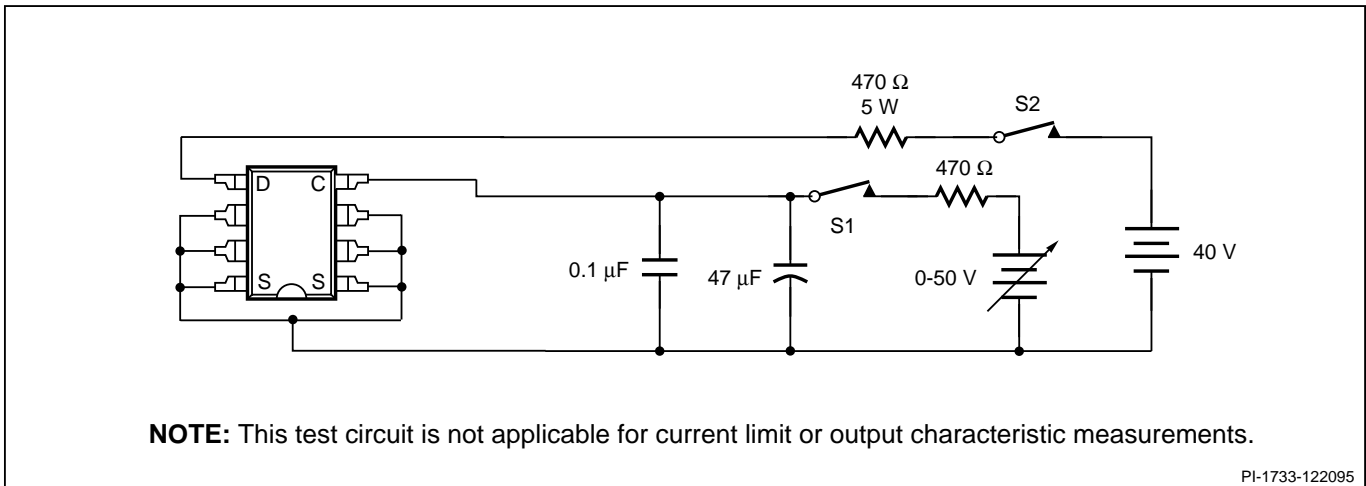

Figure 12. *TOPSwitch* General Test Circuit.
(Unless Otherwise Specified) See Figure 12 SOURCE = 0 V $T_J = -40$ to 125 °C
- B. The breakdown & leakage measurements can be accomplished by using the *TOPSwitch* auto-restart feature. The divide-by-8 counter in the auto-restart circuitry disables the output MOSFET from switching in 7 out of 8 cycles. To place the *TOPSwitch* in one of these cycles, the following procedure can be carried out using the modified circuit of Figure 12:
The following precautions should be followed when testing *TOPSwitch* by itself outside a power supply. The schematic shown in Figure 12 is suggested for laboratory testing of *TOPSwitch*.